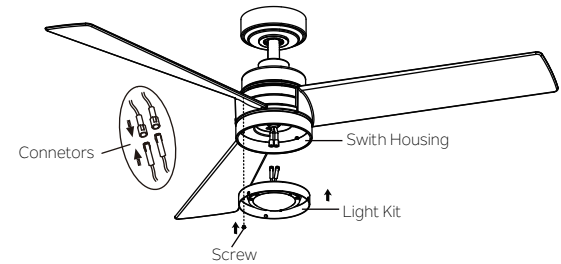

Fig. 20
Step 2. Hold the light kit close to the switch housing and connect the WHITE wires from the light kit and fan by pushing the connectors together. Follow the same procedure with the BLACK wires. (Fig. 20)
Step 3. Tuck the connections neatly into the light kit. Place the two slot holes on the light kit over the 2 screws previously loosened from the switch housing. Rotate the light kit until it locks in place at the narrow end of the key holes. Secure by tightening the 2 screws previously loosened and the one previously removed.(Fig.20)